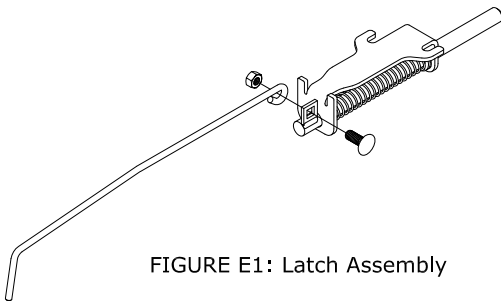
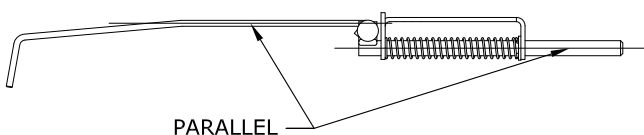

FIGURE E1: Latch Assembly
FIGURE E2: Latch Assembly
1. **Create latch assembly.** Attach the handle to the latch with a $\frac{3}{8}$ " carriage bolt and lock nut as shown in figure E1. With the handle parallel to the latch pin as shown in figure E2, tighten the hardware securing the handle to the latch.